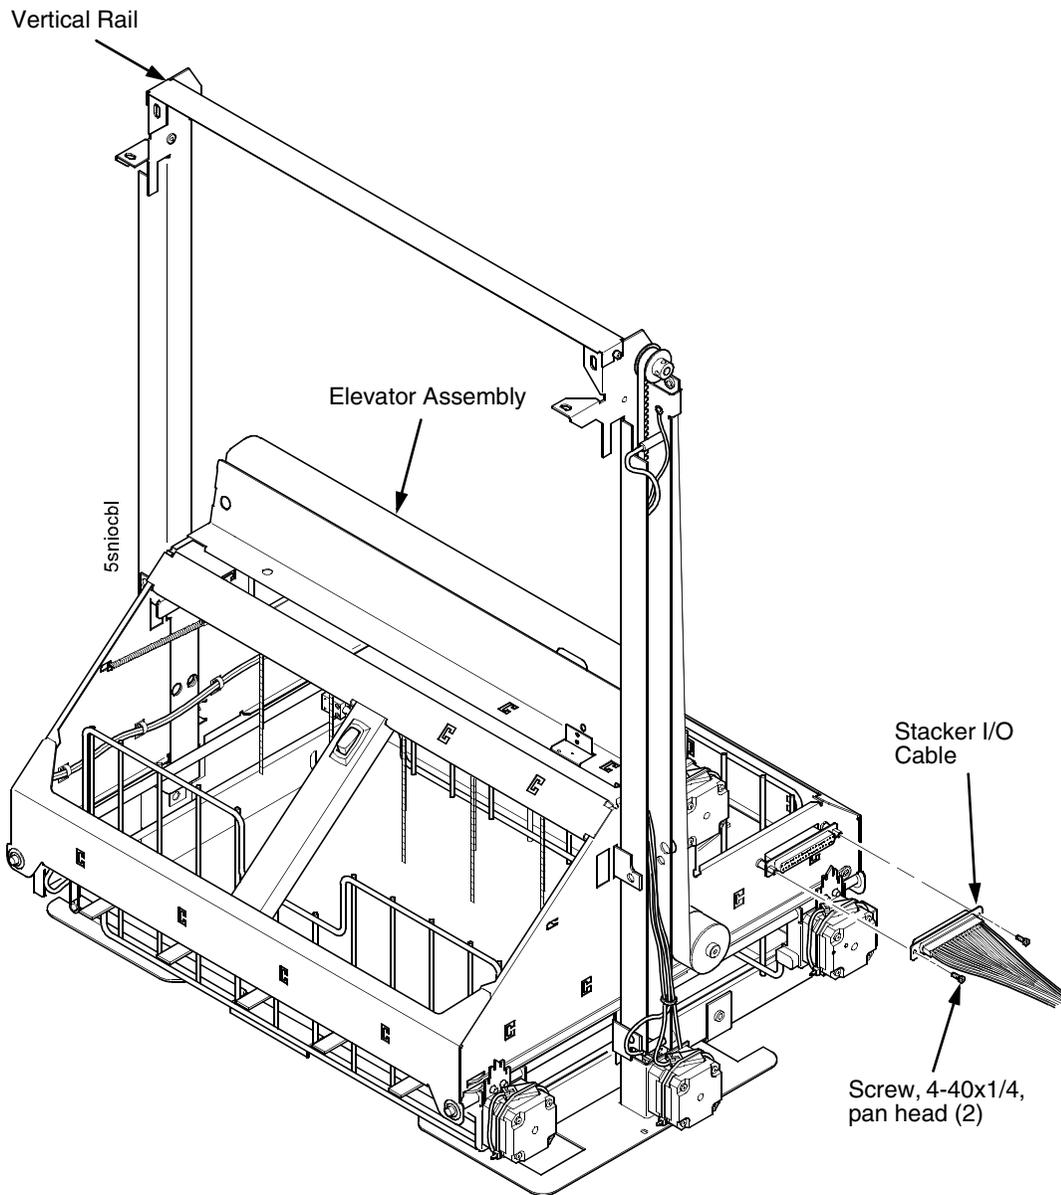

Figure 74. Disconnecting the Stacker I/O Cable
12. Remove the two 4-40 x 1/4 inch screws securing the elevator I/O cable to the elevator assembly and disconnect the stacker I/O cable. (Figure 74.)